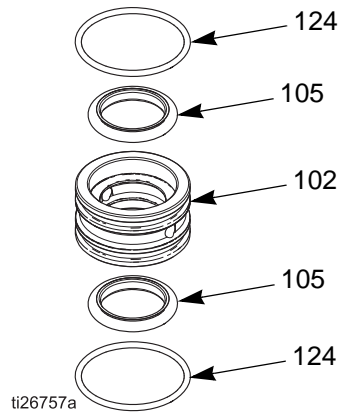

FIG. 23 Seal cartridge
18. Reinstall the seal cartridges (see FIG. 23 for the order of the seals (105) and o-rings (124)) into the lower housing (101). Apply a thin coat of grease on